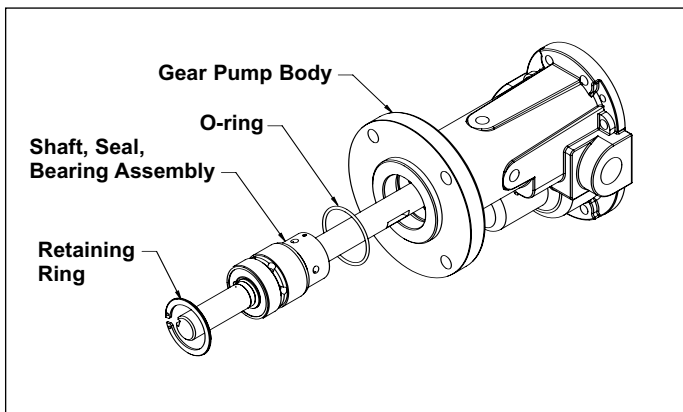

Figure 8 - Shaft, Seal and Bearing Assembly
pump, remove the internal snap ring (Ref. No. 13) from the body (Ref. No. 12). The drive assembly, which consists of the drive shaft (Ref. No. 9), seal assembly (Ref. Nos. 18 & 19), seat retainer (Ref. No. 16), bearing (Ref. No. 15) and retaining rings (Ref. No. 14), can now be removed from the unit (See Figure 8). Also remove the internal o-ring (Ref. No. 20) from the body.
The mechanical seal is placed on the shaft with the polished carbon face against the polished ceramic of the seat. Do not use any lubricants when installing the seal other than very clean water. The use of lubricants can cause weeping of the mechanical seal Teflon wedges. Make sure that all of these components are installed and tight against each other (ball bearing, seat retainer with seat, and the mechanical seal). (See Figures 8 and 9.)
- e. Slide the seal retainer and bearing onto the drive shaft and install retaining ring, holding the bearing and seal onto the shaft (See Figures 8 and 9).
- f. Slide the drive shaft assembly (Ref. Nos. 14, 15, 16, 18 & 19) into the gear pump body and secure with the internal retaining ring (Ref. No. 13). (Also see Figure 8.)